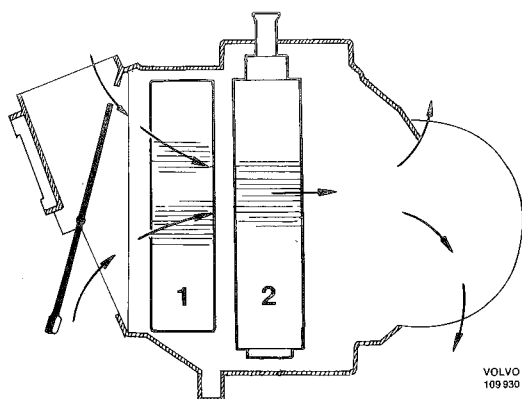

Fig. 8-41. Air circulation through system with re-circulation
When the right button marked "REC" is pushed in, the air intake cover is adjusted to re-circulation of the compartment air (Fig. 8-41). With the cover in this position, only a small portion of fresh air is sucked in and mixed with the compartment air. When the air conditioner is on, the REC button should be pressed in during the cooling period and also when the ambient temperature and/or air humidity is high.
Even when the air conditioning is switched on, the air temperature is regulated by the "TEMP" control. Fig. 8-41 shows how the sucked-in air is first cooled when it passes the evaporator (1) and how it is heated when it passes the heater cell assembly (2) up to the temperature adjusted by the "TEMP" control. When the air passes the evaporator, it liquifies as it cools. The moisture which condenses on the evaporator during the cooling, is drained through the hose, which runs through the transmission tunnel. A fresh-air vent is located in the left-hand firewall panel. The air vent has a grille which can be regulated to control the fresh air supplied to the compartment.